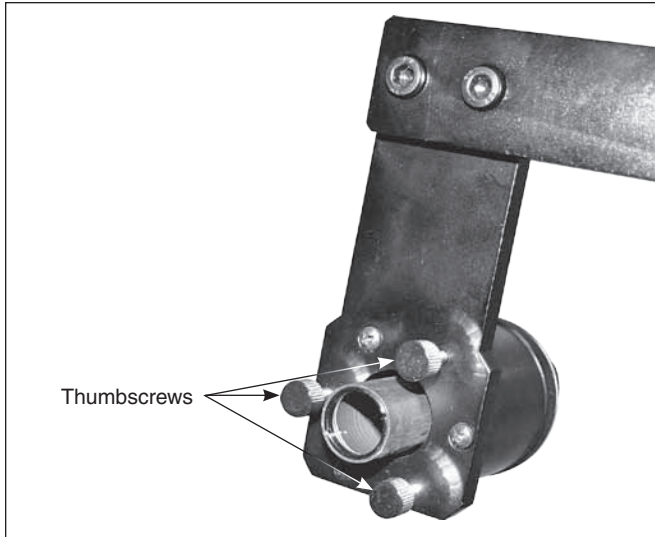

Figure 5. Polar alignment requires adjusting the three thumbscrews on the back plate of the polar scope.
5. If the object deviates from the cross, then adjust the three thumbscrews shown in **Figure 5** to move the object HALFWAY back to the cross.